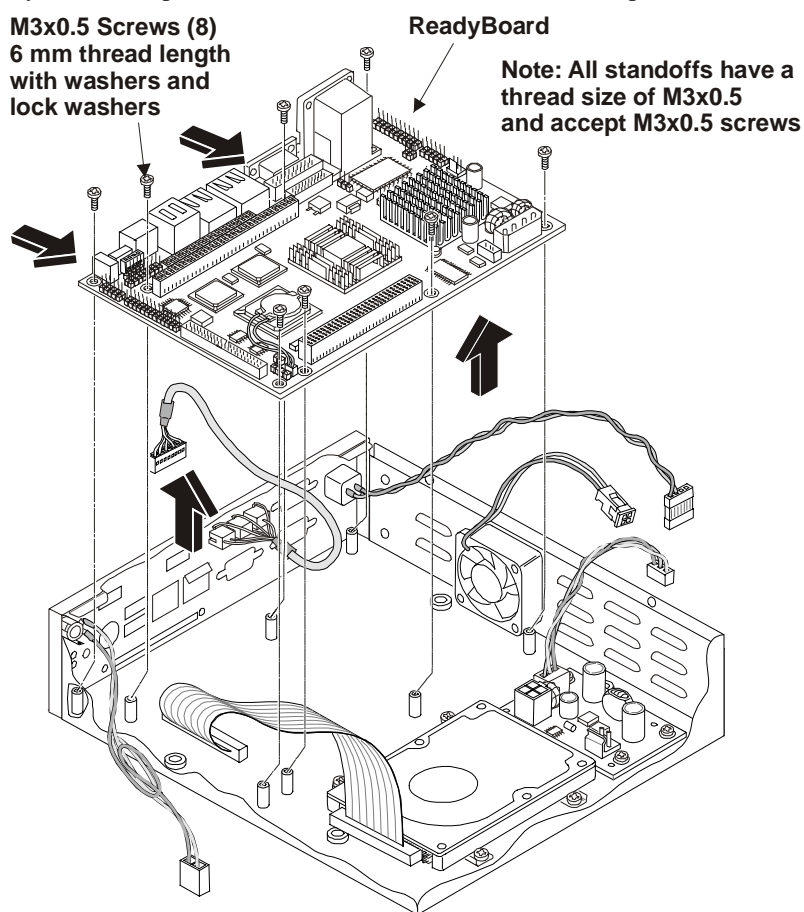

Figure 2-5. Removing ReadyBoard from Enclosure
8. Remove all screws (8) holding the ReadyBoard to the enclosure standoffs. See Figure 2-5.
9. Slowly work the ReadyBoard to the rear of the enclosure until it is safely clear and place it on a protective surface. See Figure 2-5.